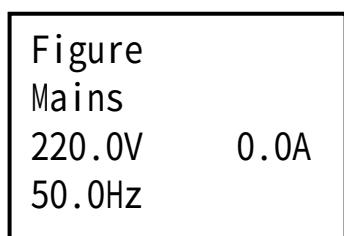

Fig.4 : MAIN INPUT INFO
- 5) Select and confirm the data info to be viewed in detail. It contains the details of the AC input /output, inverter, battery, BUS, parallel, temperature. See Fig 4 to 12 below.